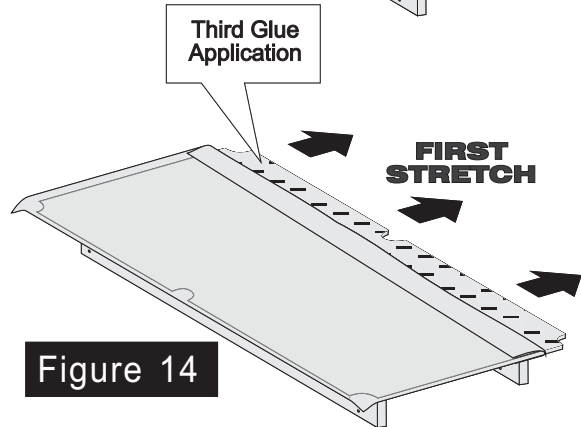

Figure 14
35. Fold cloth away from other side to expose slate/slatron for your third glue application. (See Figure 14). Apply cement to this side in the same manner. Allow cement to become tacky, wait at least one minute.